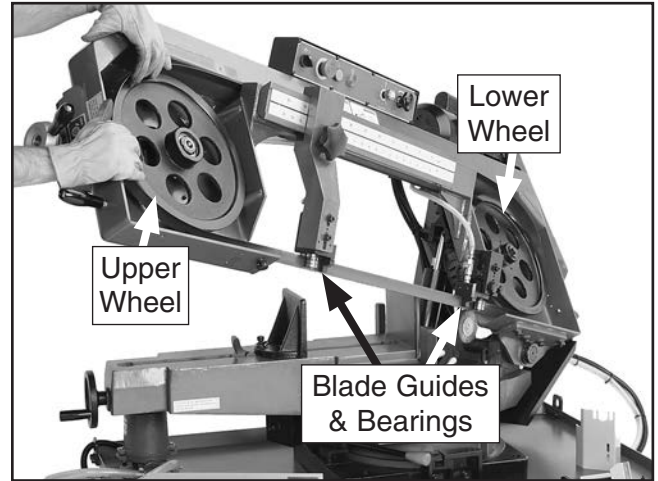

Figure 35. Example of installing blade.
11. With help of an assistant, insert new blade through both blade guides and bearings (see **Figure 35**), then position it around wheels.